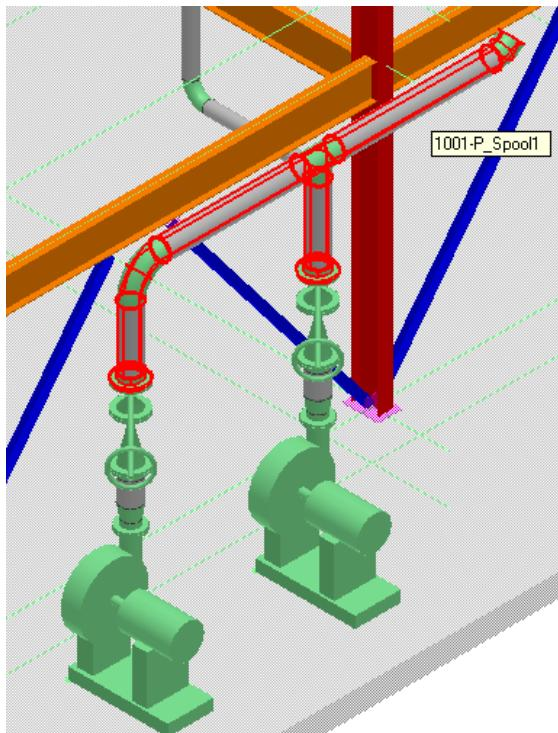

Figure 22: Generated Spool in the Graphic View
57. To view the spool you created, select the **Spools** option in the **Locate Filter** drop-down list and point to the pipeline **1001-P**. A tool tip will appear for the spool in the graphic view, as shown in Figure 22.